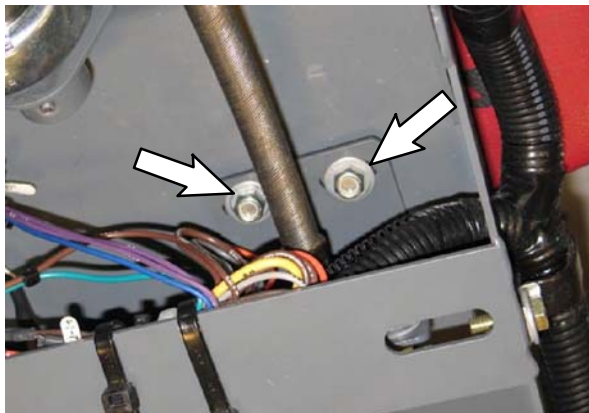

FIG. 32
4. Reinstall the the support bracket / flange bearing onto the steering channel. Loosely install the hardware. **DO NOT COMPLETELY TIGHTEN HARDWARE.** Hardware is tightened during later adjustment. (Fig. 32)